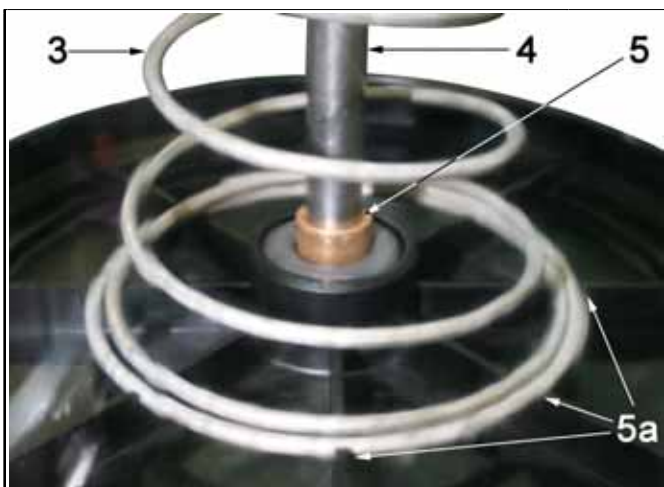

Fig. 3 Assembly:
Carefully pull contact rod 4 out of follower plate 5 (Fig. 3).
- ➔ Make sure that the centered position of the spring 3 (Fig. 3) is secured in the cavities of the follower plate 5a.